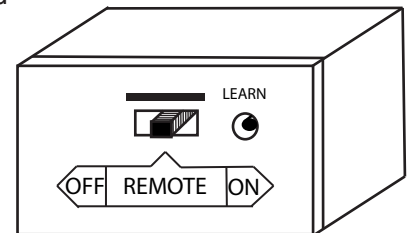

Fig. 16 Learning
- Slide the 3-position button on the remote receiver to the **ON** position (Fig. 16). The main gas flame (fire) should light.